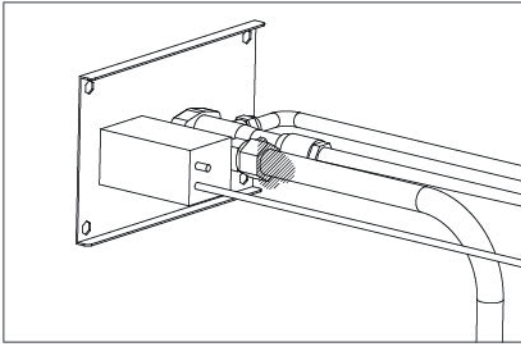
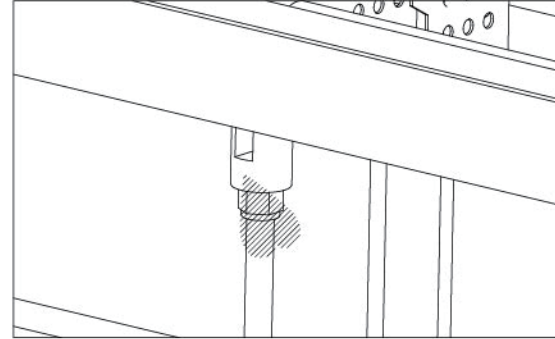

Figure 10
Figure 11
3. Apply several drops of solution where gas valve attaches to bellows (see Figure 9) . where gas valve attaches to hose (see figure 10), and where inlet tube attaches to billows (see Figure 11). If NO bubbles appear, the connection are secure .If bubbles appear, the connection has the leak, disconnect, reconnect, perform another leak check. If you continue to see bubbles after several attempts, the part is defective and should replace the part.